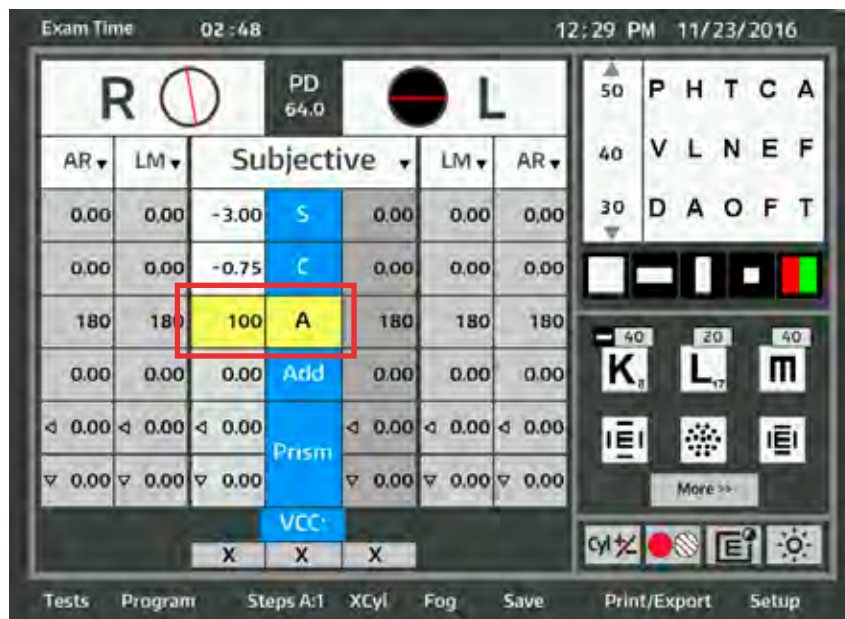

Figure IU-10 Sphere Active Boxes
1. Activate the Axis value field by touching the **A** box in the main display area of the screen, activating the Axis value field for both eyes. Refer to Figure IU-10.